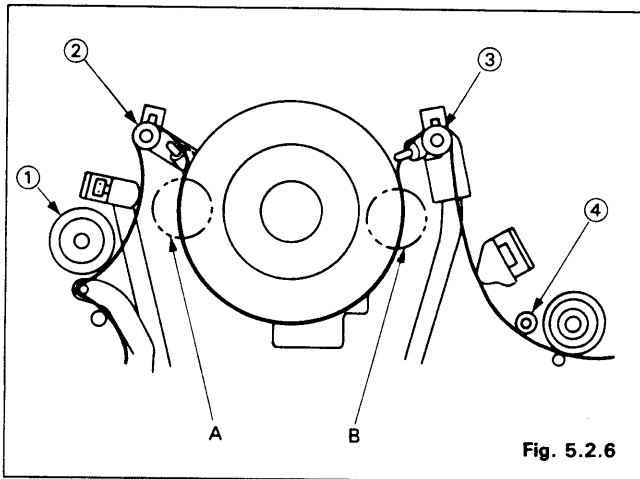

Fig. 5.2.6
2. Load a blank tape and set the VCR to the PLAY mode. Check the tape transport at points "A" and "B" as shown in Fig. 5.2.6.